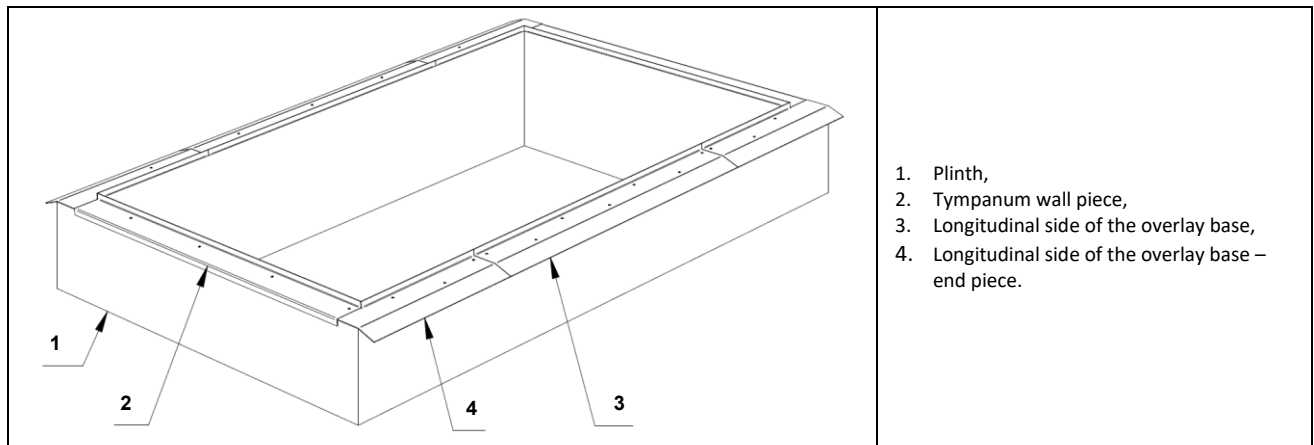

Figure 16 Arrangement of the overlay base on the on-site roof plinth
2. Lay out the overlay base components on the plinth sides according to (Figure 16 Arrangement of the overlay base on the on-site roof plinth). Apply PES 40x3 or PES 20x5 tape on the curb.